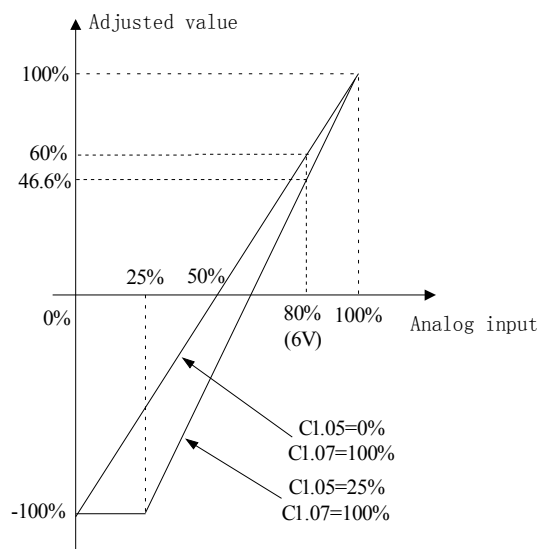

Fig.6-42 Regulation curve of reference
The regulation relationship between C1.05, C1.07 and reference is shown in Fig.6-42. When the analog input 6V, if C1.05=0% and C1.07=100%, then adjusted value is 60%. If C1.05=25% and C1.07=100%, then the adjusted value is 46.6%.
1. Fig.6-42,0% ~ 100% in X axis is corresponding to analog input $-10V \sim 10V$,10V of analog input is corresponding to 100%,and $-10V$ is corresponding to 0%,6V is corresponding to 80%.